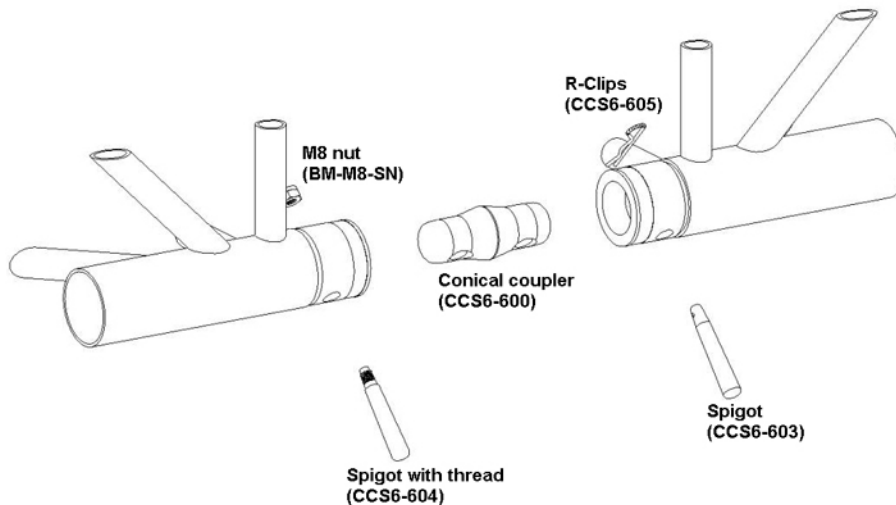

Figure 11 Coupling system
2. Put the conical couplers (CCS6-600) in the conical tube-ends of the truss. Notice the wide side of the truss-pinhole points outward or upward See figure 11.